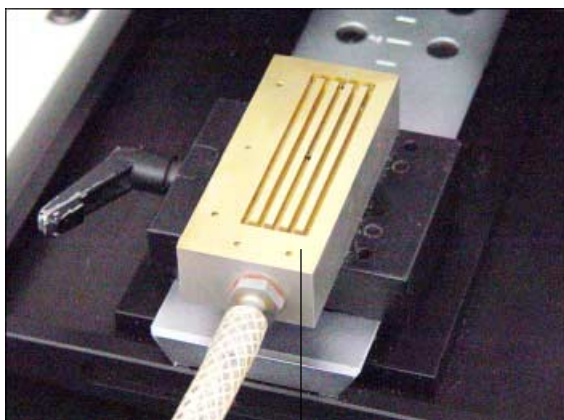

Fig. 5.21
- Attach the miller holder containing the finishing miller to the milling spindle (Allen screws / Allen key size 5) - see Fig. 5.21, page 34).